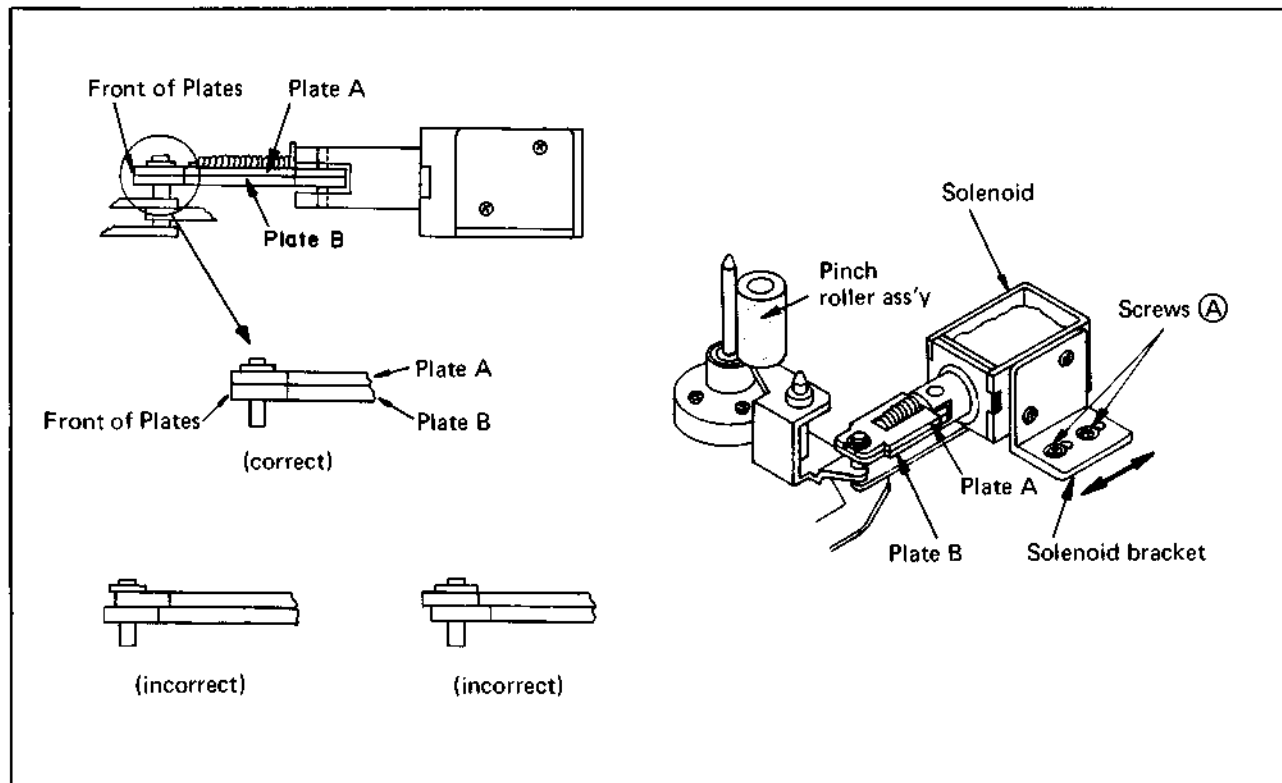

Fig. 5-28
2. Refer to Fig. 5-28. Loosen two screws (A) and adjust front to rear position of pause solenoid so that leading edges of plate A and plate B are aligned.